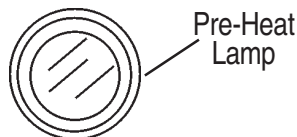

Figure 47. Pre-Heat Lamp
7. Verify that the pre-heat lamp (Figure 47) is lit (**ON**) before starting engine.